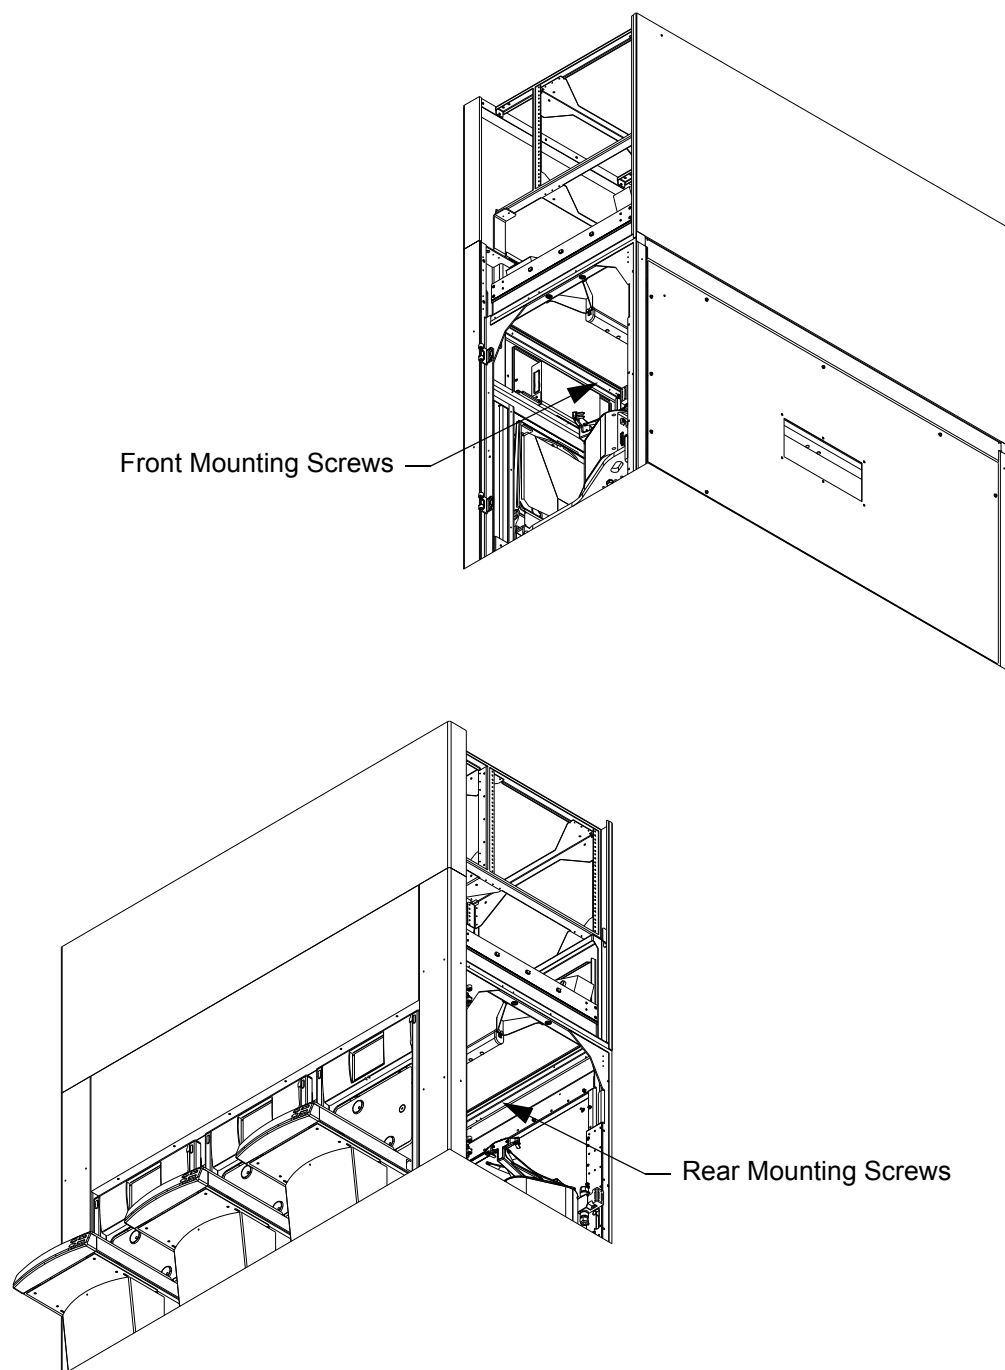

Figure 8-6: Remove FFU Mounting Screws
12. Remove the mounts securing the FFU to the EFEM by removing the screws securing the FFU to the Jet system from within the mini-environment (6 screws on a 2 bay, 8 screws on a 3 bay, 10 screws on a 4 bay system). See Figure 8-6.